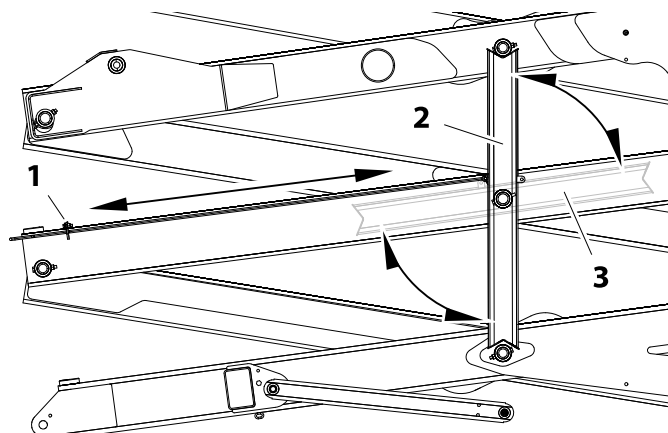

Figure 6-4. Scissor Arm - Safety Prop Assembly
1. To engage the safety prop, raise the unloaded platform high enough to allow the safety prop to rotate vertically into position. (See Figure 6-4.)